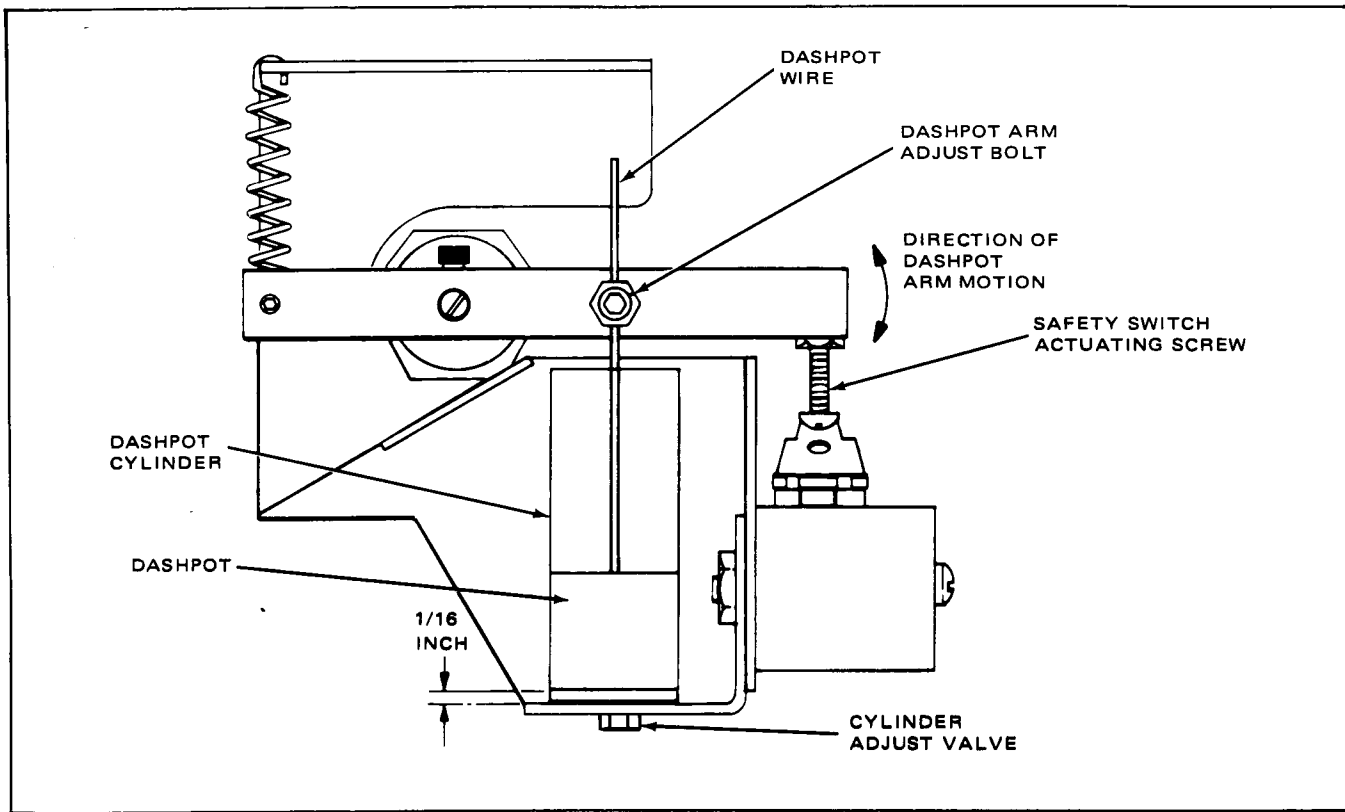

Figure 5-16. Tension Arm Dashpot Assembly
3. Adjust the safety switch actuating screw as necessary, such that the safety switch is actuated immediately before the end-of-tape sensor arm touches the inner stop pin (see Figure 5-16).
6. Move the end-of-tape arm to approximately the normal position as when it is engaged with the threaded tape, and then allow it to return to the end-of-tape position. The return time should be between 1/2 to 1-1/2 seconds. Adjust the cylinder adjust valve (Figure 5-16) as required to achieve the correct time.